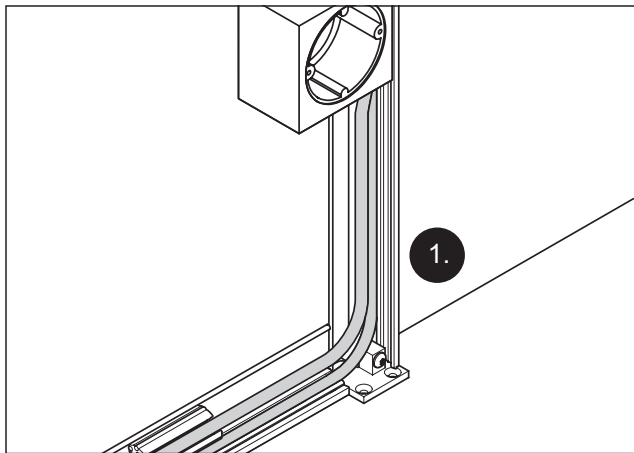

Abb. 13 Example of a cable installed according to the planned cable routing through the clamping piece in the door frame system
1. Install the cable according to the planned cable routing e.g. through the mounting profile and the door frame system (Abb. 13).